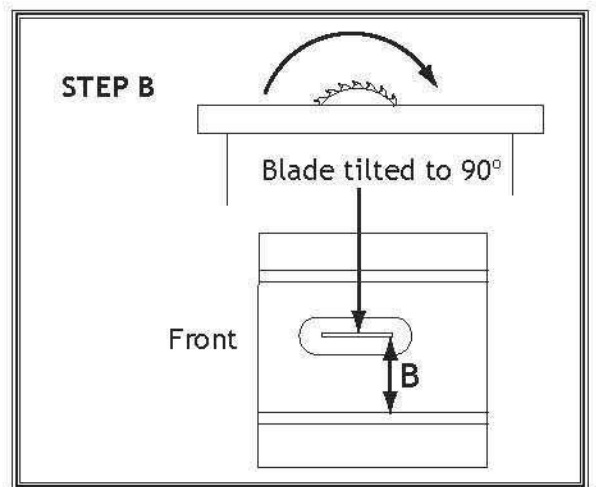

Figure 105. Making second slot-to-blade measurement at 90°.
5. Slide adjustable square down to other end of table insert and compare distance from marked blade tip to end of adjustable square, as shown in **Figure 105**.